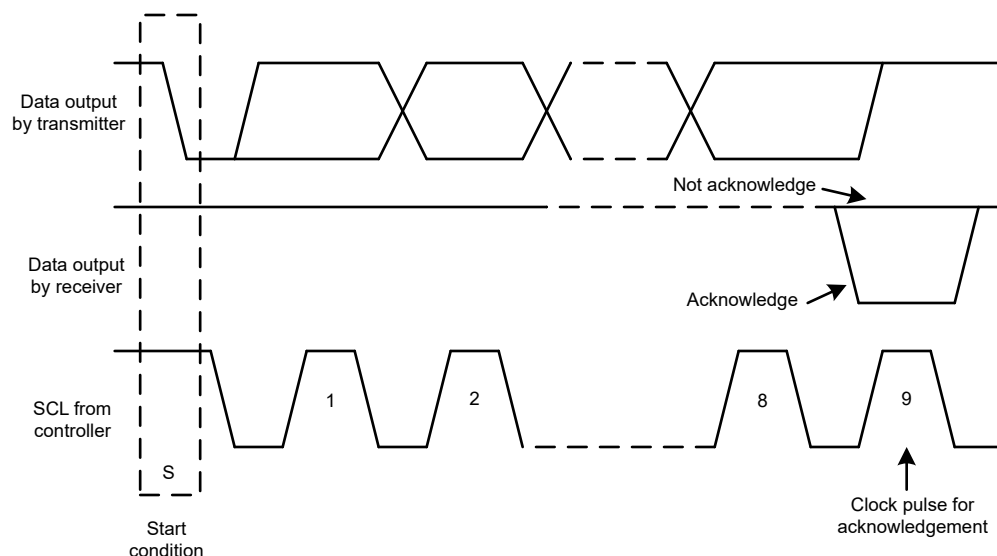
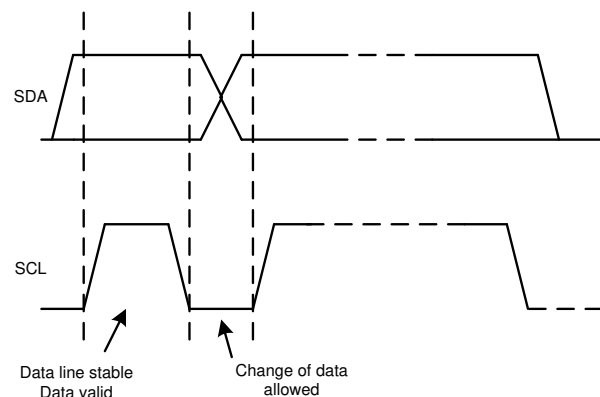

Figure 7-18. Acknowledge and Not Acknowledge on the I²C Bus
Figure 7-20. Bit Transfer on the I²C Bus
Other than specific timing signals, the I²C interface works with serial bytes. At the end of each byte, a ninth clock cycle generates and detects an acknowledge signal. An acknowledge is when the SDA line is pulled low during the high period of the ninth clock cycle. Figure 7-18 depicts a not-acknowledge, when the SDA line is left high during the high period of the ninth clock cycle.
2. The controller then generates the SCL pulses, and transmits the 7-bit address and the read/write direction bit ($R/\overline{W}$) on the SDA line. During all transmissions, the controller makes sure that data are valid. Figure 7-20 shows that a valid data condition requires the SDA line to be stable during the entire high period of the clock pulse. All devices recognize the address sent by the controller and compare the address to the respective internal fixed address. Only the target device with a matching address generates an acknowledge by pulling the SDA line low during the entire high period of the 9th SCL cycle (see also Figure 7-18). When the controller detects this acknowledge, the communication link with a target has been established.